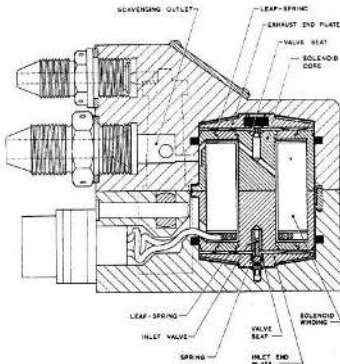

Fig. 3. Sectional view of electro-pneumatic valve (AC1010)
6. At one end of the solenoid assembly (Fig. 3) is a normally-closed inlet valve, and at the opposite end a normally-open exhaust valve. The inlet valve is similar to those in the duo-electric valve, and connects with an air passage drilled in the casing. The exhaust valve, however, communicates with an air passage drilled through the centre of the